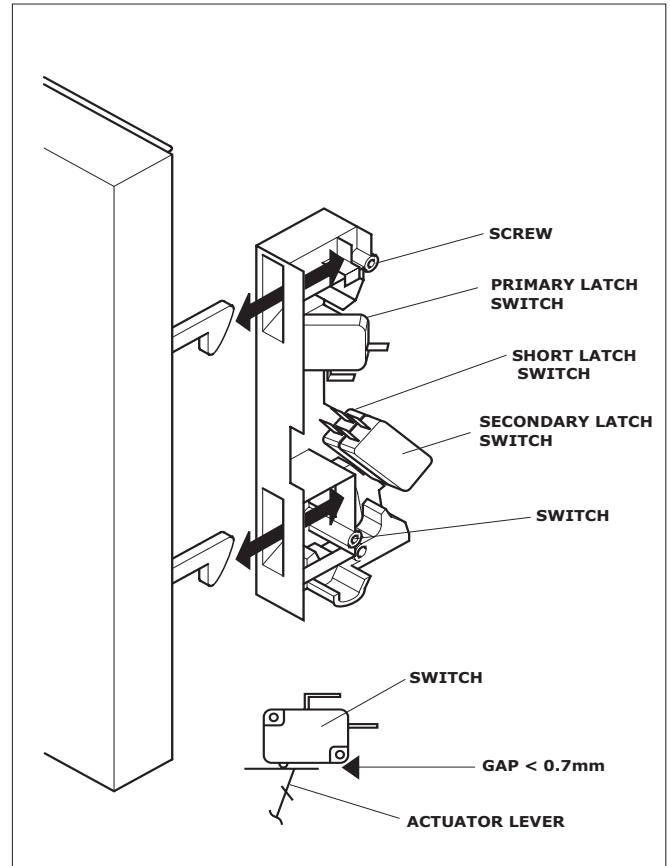

figure 17 Adjustment of latch switches
3. When mounting the door hook assembly to the oven assembly, adjust the door hook assembly by moving it in the direction of the arrow figure 17. Ensuring the door does not have any play in it. Check for play by pulling the door assembly. Make sure that the latch keys move smoothly after adjustment is completed. Completely tighten the screws holding the door hook assembly to the oven assembly.